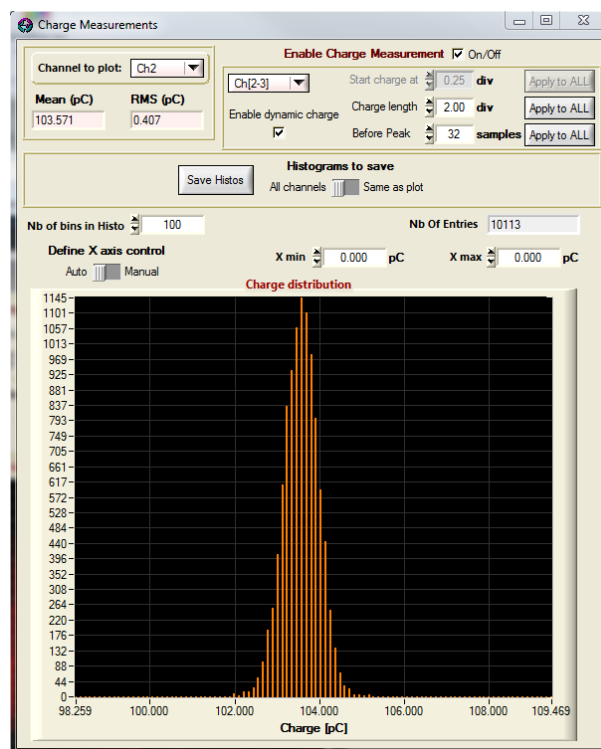

Figure 5.19: Charge Measurements window
- **Charge Measurements:** by clicking on this item, the user opens an eponym window (see **Figure 5.19**). In order to perform the measurement, the On/Off checkbox has to be checked.